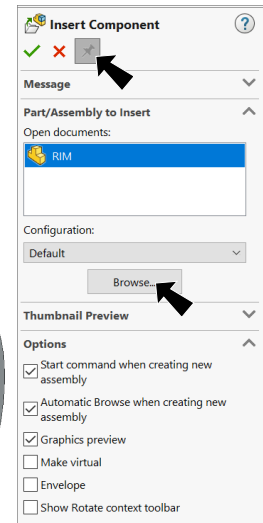

Fig. 1
click **Keep Visible** , **Fig. 1**
- Step 4. Click **Browse** in the Property Manager, **Fig. 1**.